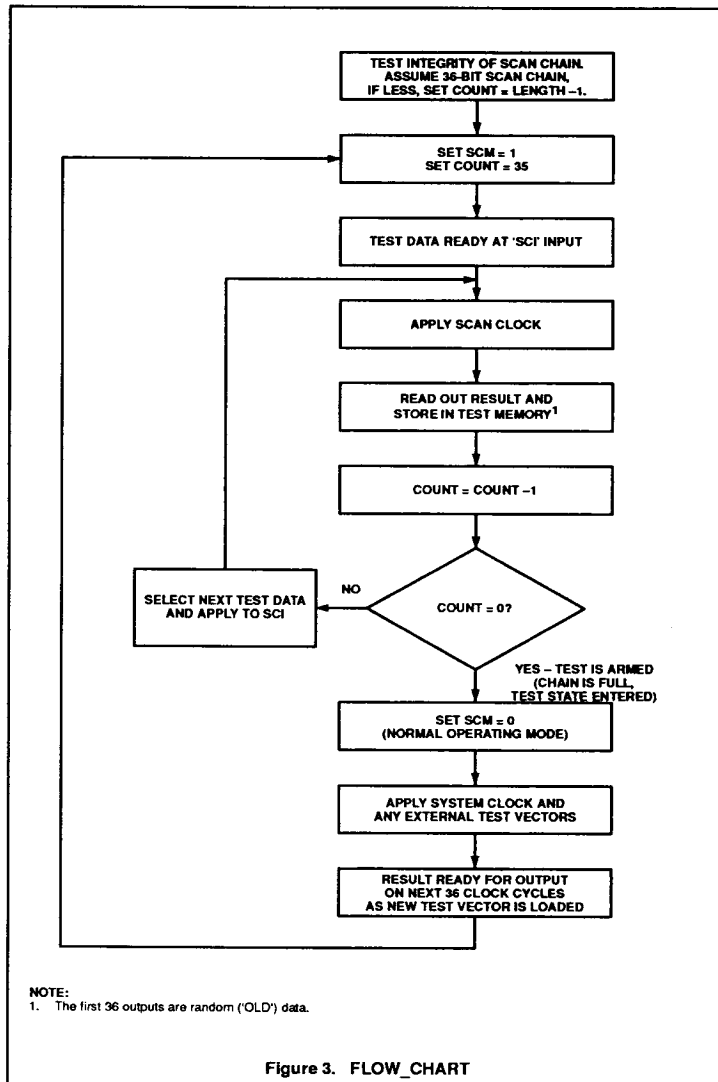

Figure 3. FLOW_CHART
8. Figure 3 (FLOW_CHART) depicts a flow chart version of the test sequence.